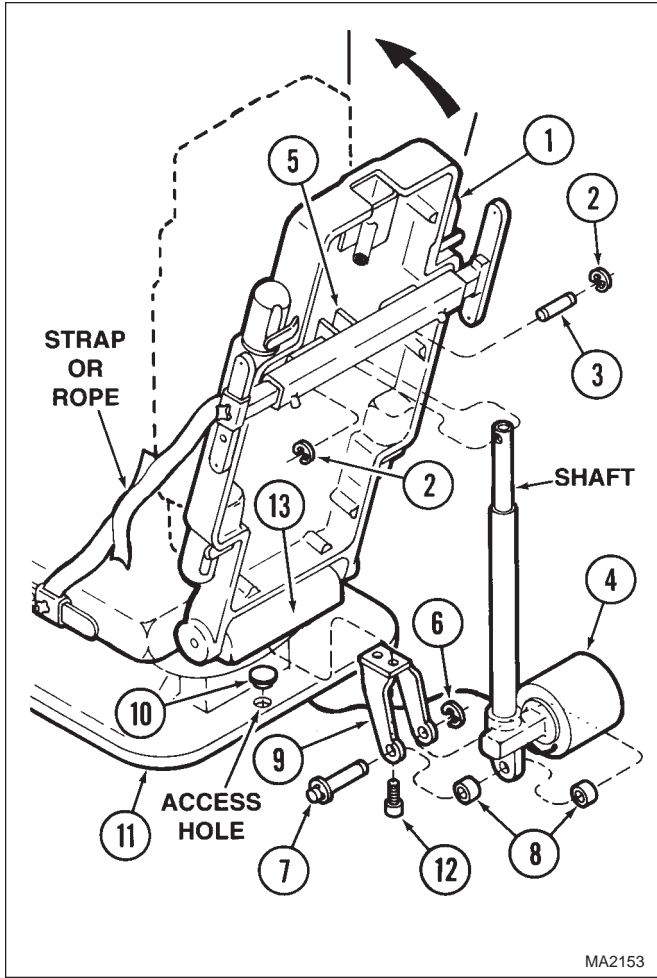

Figure 4-27. Back Actuator Disconnection
(10) While supporting the back casting (1, Figure 4-27), remove two E-rings (2), clevis pin (3), and separate the shaft of back actuator (4) from outer tube weldment (5). Let the back actuator hang from its remaining mounting hardware.
(11) Raise the back casting (1) as far as it will go and securely tie the back casting in this position with straps or ropes.
(12) Remove two E-rings (6), clevis pin (7), two plastic spacers (8), and back actuator (4) from back clevis (9). Lower the back actuator onto the base of the surgery table.
(13) Remove hole plug (10) from access hole in trendelenburg plate (11).